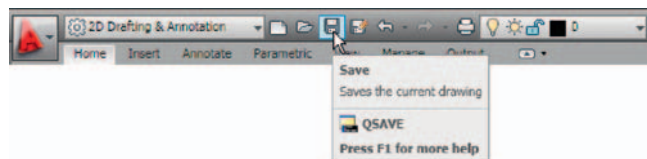

Fig. 1.28 Click Save
- Click* the **Save** icon in the **Quick Access** toolbar (Fig. 1.28). The **Save Drawing As** dialog appears. In the **Files of type** popup list select **AutoCAD Drawing Template (*.dwt)**. The templates already in AutoCAD are displayed in the dialog. *Click* on **acadiso.dwt**, followed by another *click* on the **Save** button.